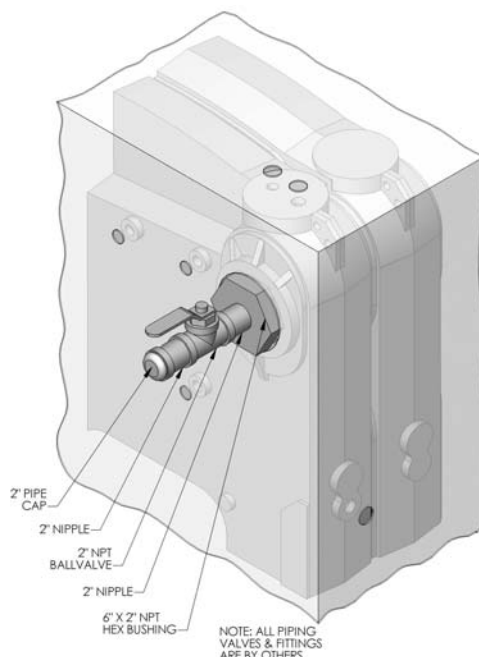

Figure 4.1: Skim Valve Piping
3. Install a 2" skim valve and fittings in the 6" N.P.T. tapping of the front section. See Figure 4.1.